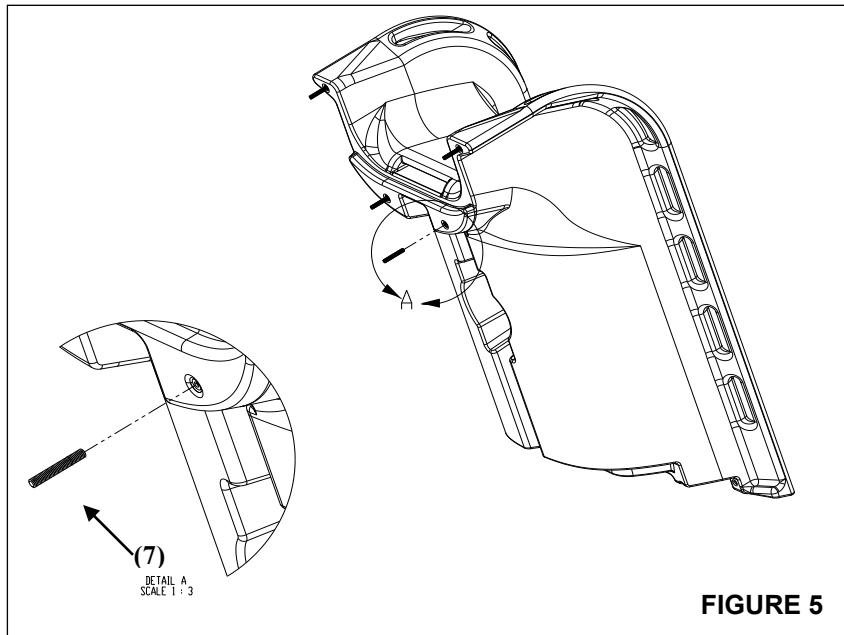

FIGURE 5
- 4) Insert the threaded studs into each of the threaded inserts as shown in Figure 5. The studs should be screwed in by hand until they reach the bottom of the insert. If the studs cannot be threaded in by hand, pliers may be used. Before using pliers, a piece of cloth should be placed over the stud to protect the threads from damage. **Note: Be sure to apply anti-seize to all fasteners to prevent galling.**